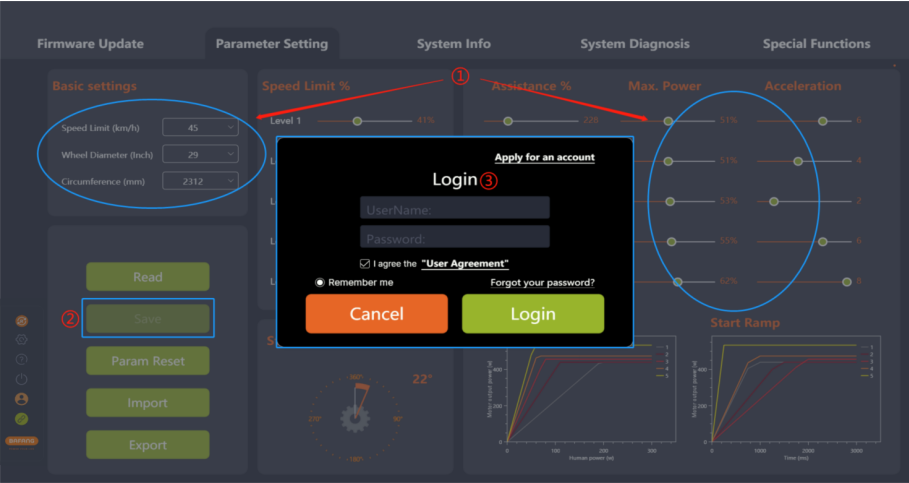

Fig 5-13 Login
3. If you are not logged in, the "Login" interface will pop up, prompting you to log in (Figure 5-13).